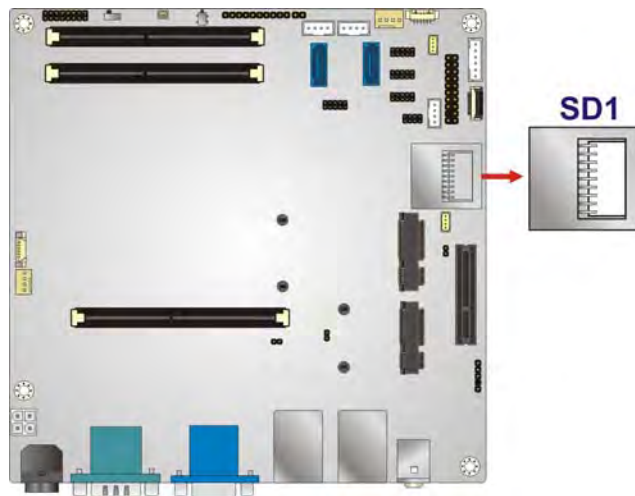

Figure 3-22: SD Card Slot Location
- CN Location: See **Figure 3-22**